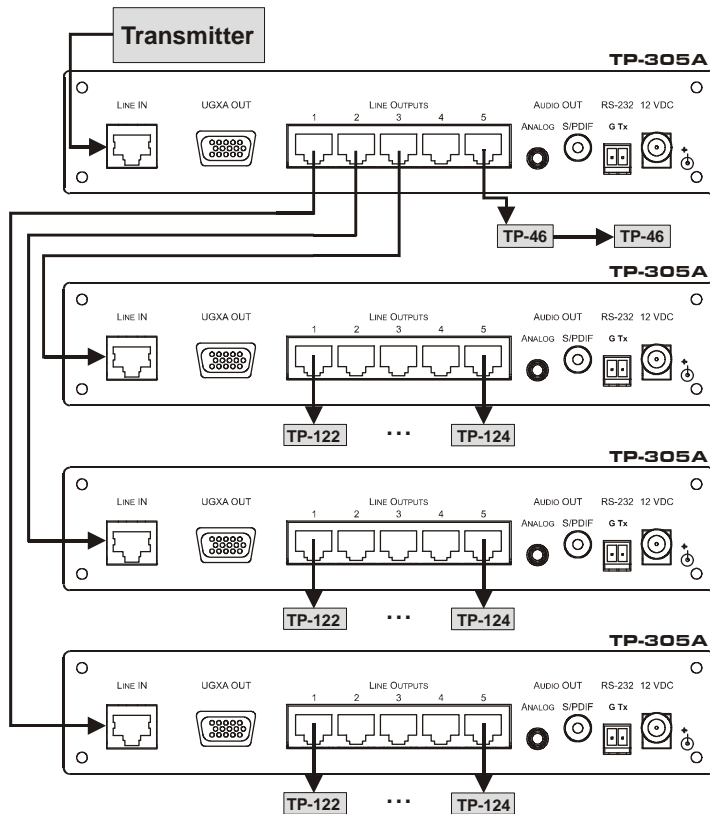

Figure 4: Distributing the Signal to 17 Receivers
In the example illustrated in Figure 4, a **TP-305A** unit is connected to three additional **TP-305A** units via the **LINE OUTPUT** RJ-45 connectors. Each of the three connected **TP-305A** units can distribute the signal to five receivers. The system, in total, distributes the signal to 17 receivers.
5. Connect the LINE OUTPUT RJ-45 connectors of each **TP-305A** unit, to the LINE IN RJ-45 connectors of the appropriate receivers, as illustrated in Figure 4.